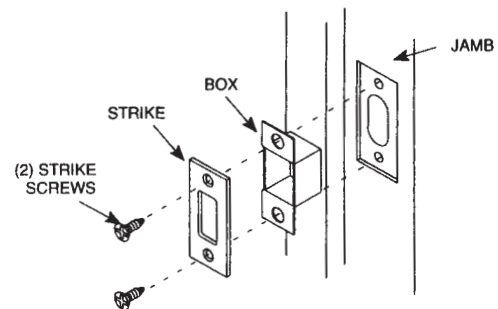

Figure 9-2
- See Figure 9-2. Chisel out for box and attach with two (2) strike screws.